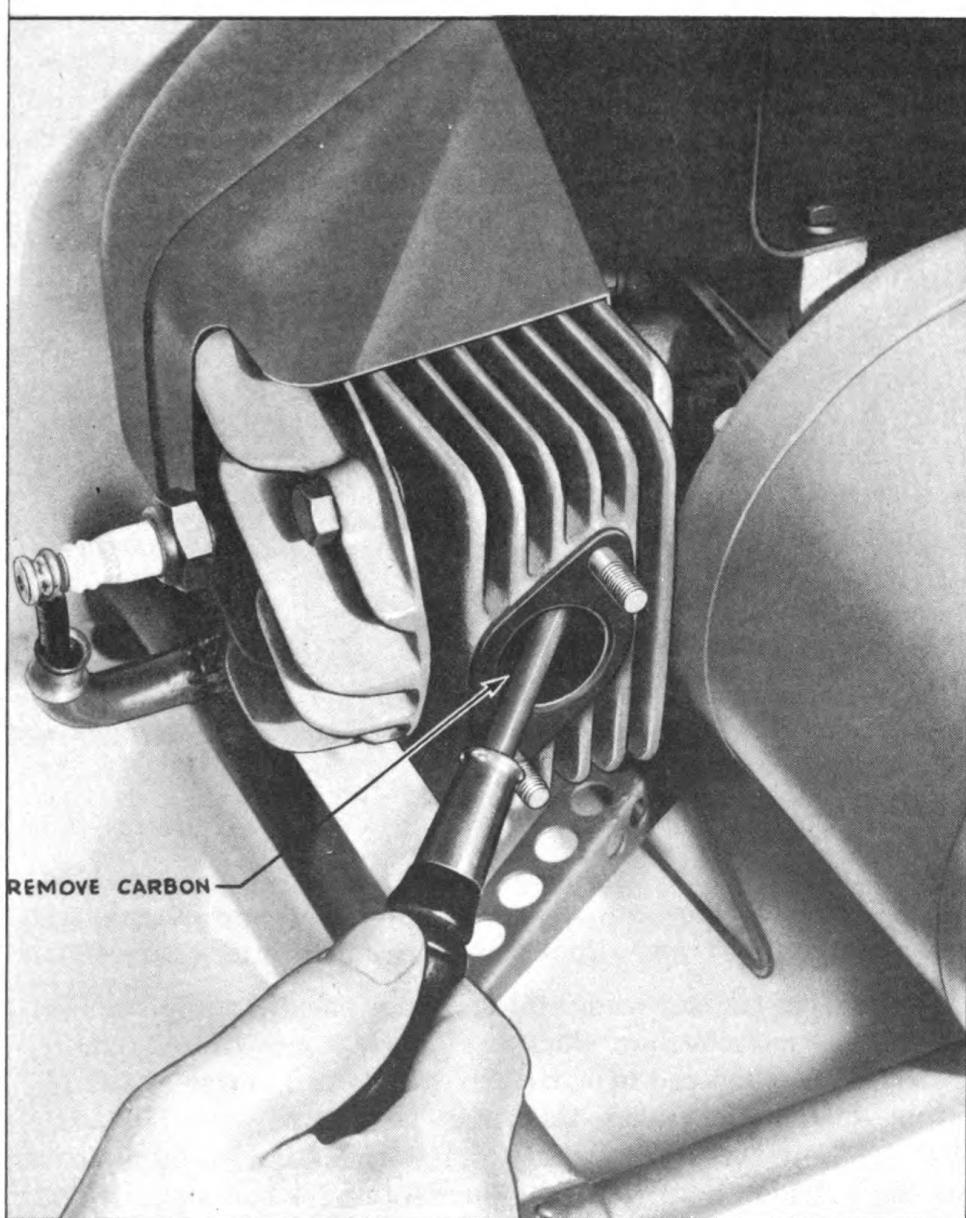

FIG. 13—CARBON REMOVAL—EXHAUST PORTS
- (1) Remove spark plug.
- (2) Remove muffler.
- (3) Turn engine over by hand until piston reaches bottom dead center. Examine exhaust ports. Carbon and lead deposits in the exhaust ports can be removed with screw driver or some similar instrument. (See Fig. 13, Page 28.) Be careful not to damage the piston when removing the deposits from ports.
(4) It is preferable when exhaust ports are found partially closed by carbon and lead deposits, to make a thorough check of the piston, intake port, and cylinder head. The following should be done: